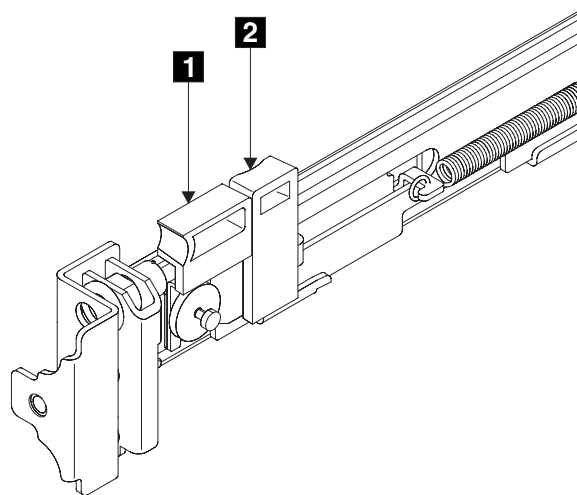

Figure 39. Retracting the latch-lock carrier
2. Put your index finger against the side of the latch-lever, **1** in Figure 39, and put your thumb against the front of the latch-lock **2**.